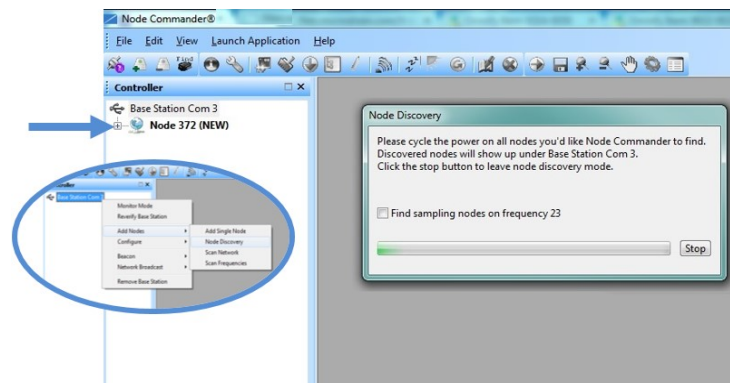

Figure 6 - Using Node Discovery
1. Right-click on the gateway name and select Add Node > Node Discovery (Figure 6 - Using Node Discovery).